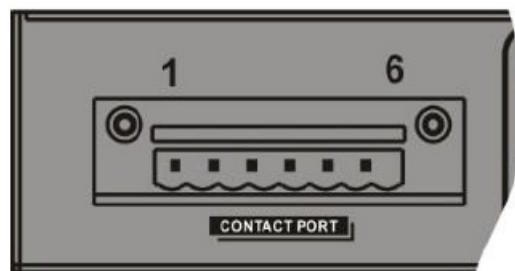

Fig. 1: Focus on contacts port.
The contacts port is formed using six (6) pins numbered from left to right (see fig. 1), which can be connected to an external monitoring system (such as a BMS) in order to monitor the operational status of the ATS. The external equipment must respect the voltage and current characteristics of the contacts port.